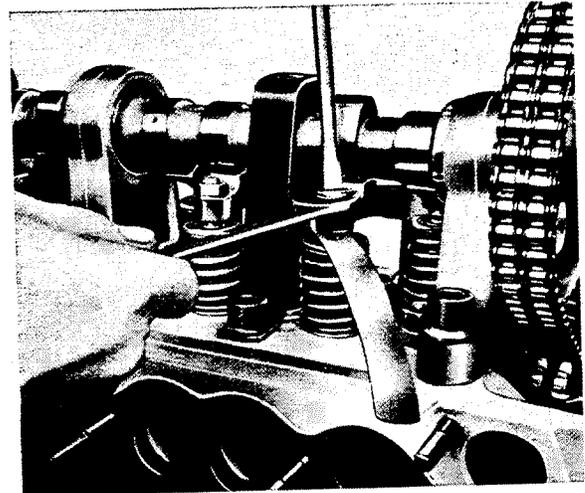

Fig. M 26c/3
3. Loosen locking nut of tappet adjusting screw and adjust screw to the correct play (Fig. M 26c/3). Tighten locking nut again. After locking nut has been tightened, check valve play again.